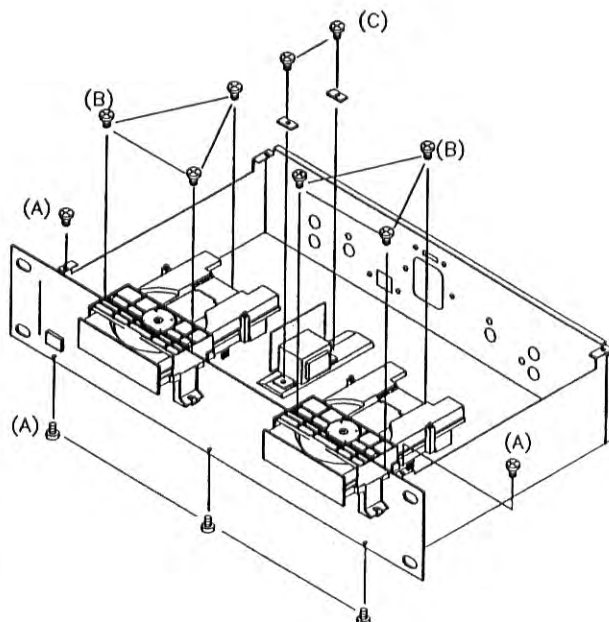

Fig.2
2. REMOVAL OF FRONT PANEL AND CD MECHANISM AND TRANSFORMER PCB.(Fig.2)
- (A) REMOVAL OF FRONT PANEL